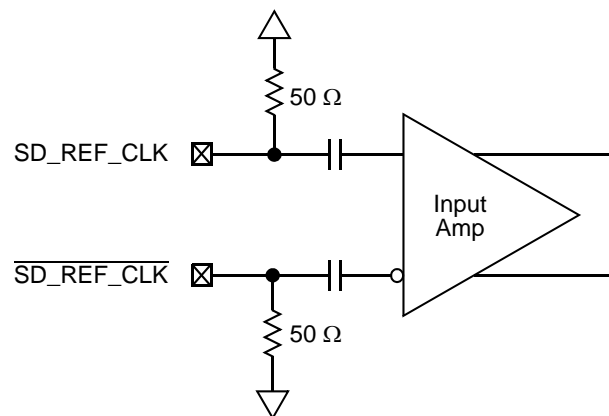

Figure 39. Receiver of SerDes Reference Clocks
Figure 39 shows a receiver reference diagram of the SerDes reference clocks.
- The SD_REF_CLK and $\overline{SD_REF_CLK}$ are internally AC-coupled differential inputs as shown in Figure 39. Each differential clock input (SD_REF_CLK or $\overline{SD_REF_CLK}$) has a 50- Ω termination to SGND_SRDSn (xcorevss) followed by on-chip AC-coupling.